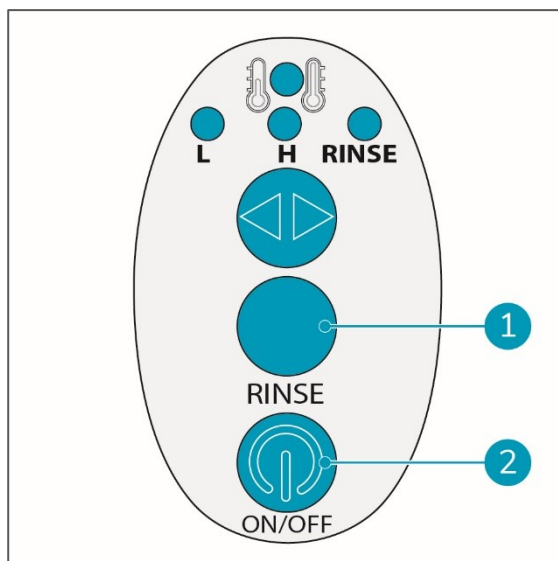

Figure 29
4. Press the ON/OFF button (fig 29, pos 2) on the handle control.
5. Press the RINSE button (fig 29, pos 1).
7. Release the RINSE button (fig 29, pos 1).
9. Turn off the machine via the ON/OFF button (fig 29, pos 2).